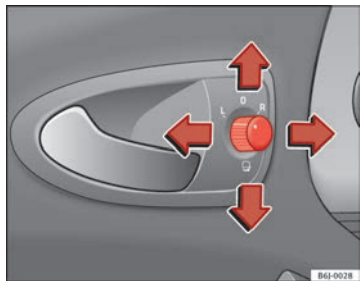

Fig. 67 Controls of exterior mirrors
1. Turn knob ⇒ fig. 67 to position **L (left exterior mirror)**.
- Turn the control ⇒ fig. 67 to position  to fold in the exterior mirrors. You should always fold in the exterior mirrors if you are driving through an automatic car wash. This will help prevent damage.